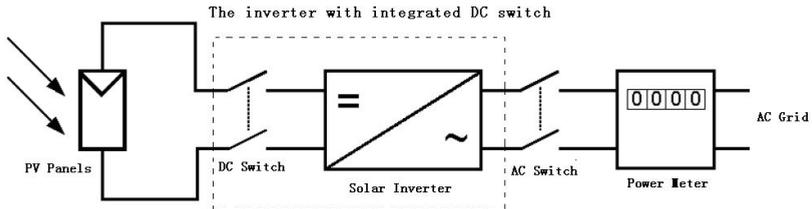

Fig.6 The PV system diagram
- C. DC Switch and AC Switch: “DC switch” is between PV Panels and solar inverter while “AC Switch” is between AC Grid (Utility) and solar Inverter. They are be simplified in this diagram. In fact, they may consist of electrical breaker, fuse and connecting terminals. To comply with local safety standards and codes, the connection system should be designed and implemented by a qualified technician. JFY-tech also provides the solar inverter with an integrated DC switch demonstrated in dashed border in Fig.6. –S suffix indicates the inverter is integrated a DC switch in PV input side.